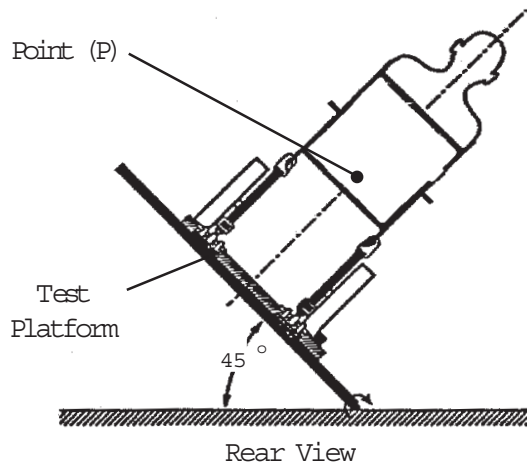

FIGURE 4 - REAR VIEW OF WHEELCHAIR AND HUMAN SURROGATE SECURED ON TEST PLATFORM AND TILTED TO 45 DEGREES
The test for Lateral Stability Displacement for Point (P) is shown in FIGURE 4. The average test result for Point (P) is (see chart, FIGURE 5).